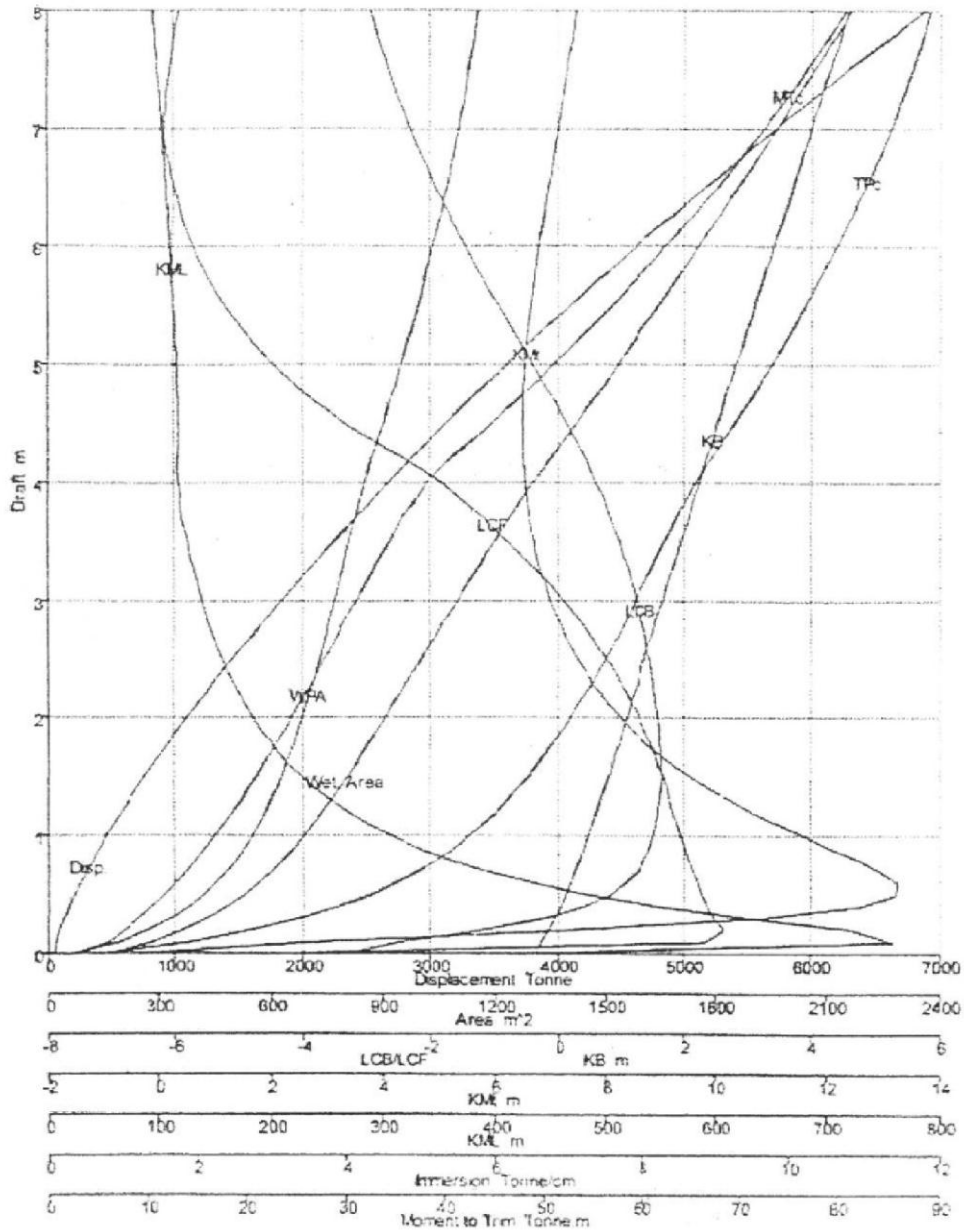

Figure 3 Hydrostatics Curves for 67.5 m Survey Vessel
- (a) A survey vessel with a length of 67.5 meter and breadth 12 meter is floating at a draught of 1 meter on seawater (ρ_{sw} is assumed 1.025 tonnes/m³). By referring to the Hydrostatics Curves as shown in Figure 3, determine and calculate the following particulars: